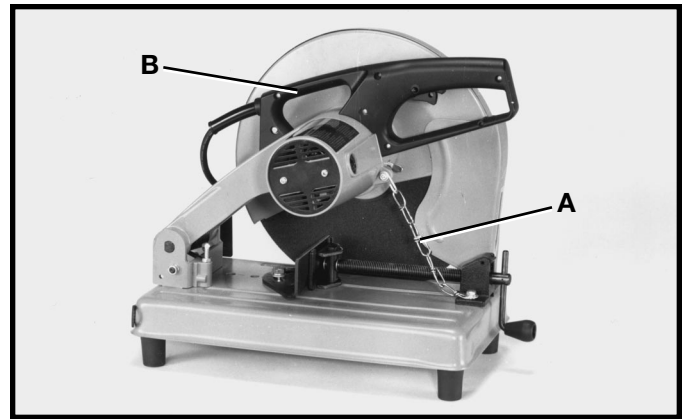

Fig. 18
When transporting the machine, the cuttinghead should always be locked in the down position by means of the holddown chain (A) Fig. 18. A carrying handle (B) is provided for ease of transportation.